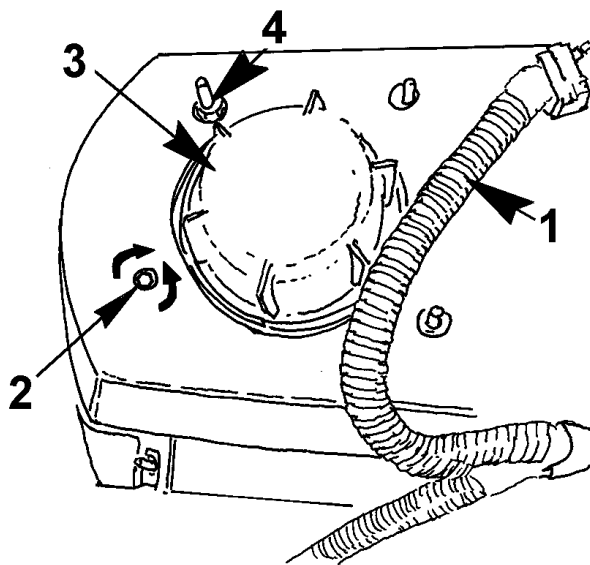

Figure 51 Headlight Adjustment
1. Locate adjustment control stem on rear of headlight housing (Figure 51, Item 2).